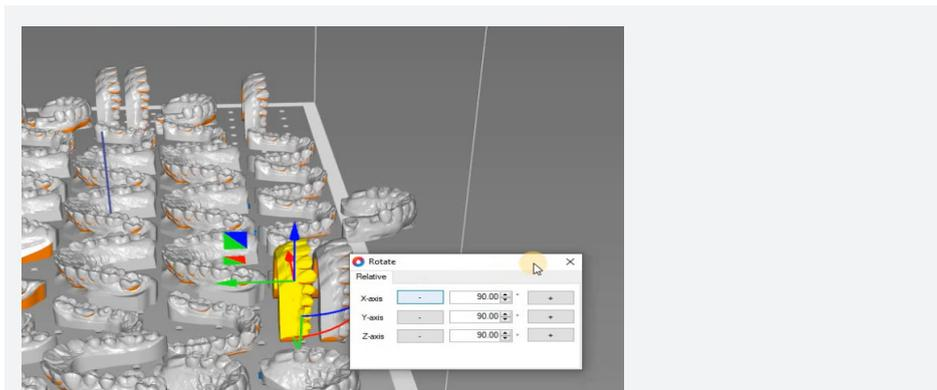

Figure 27
- If your models have not been imported flat to the build plate you will need to manually rotate them. In 'Transform' click 'Add Rotation' and adjust either the x or y axes (figure 27) and close the 'Rotate' window.
- In 'Transform' click 'Orient to face' (figure 28), add move your cursor to the underside of the platform and click on it and the model will now be flat on the platform (figure 29). Repeat this process for each model (figure 27, 28 & 29).